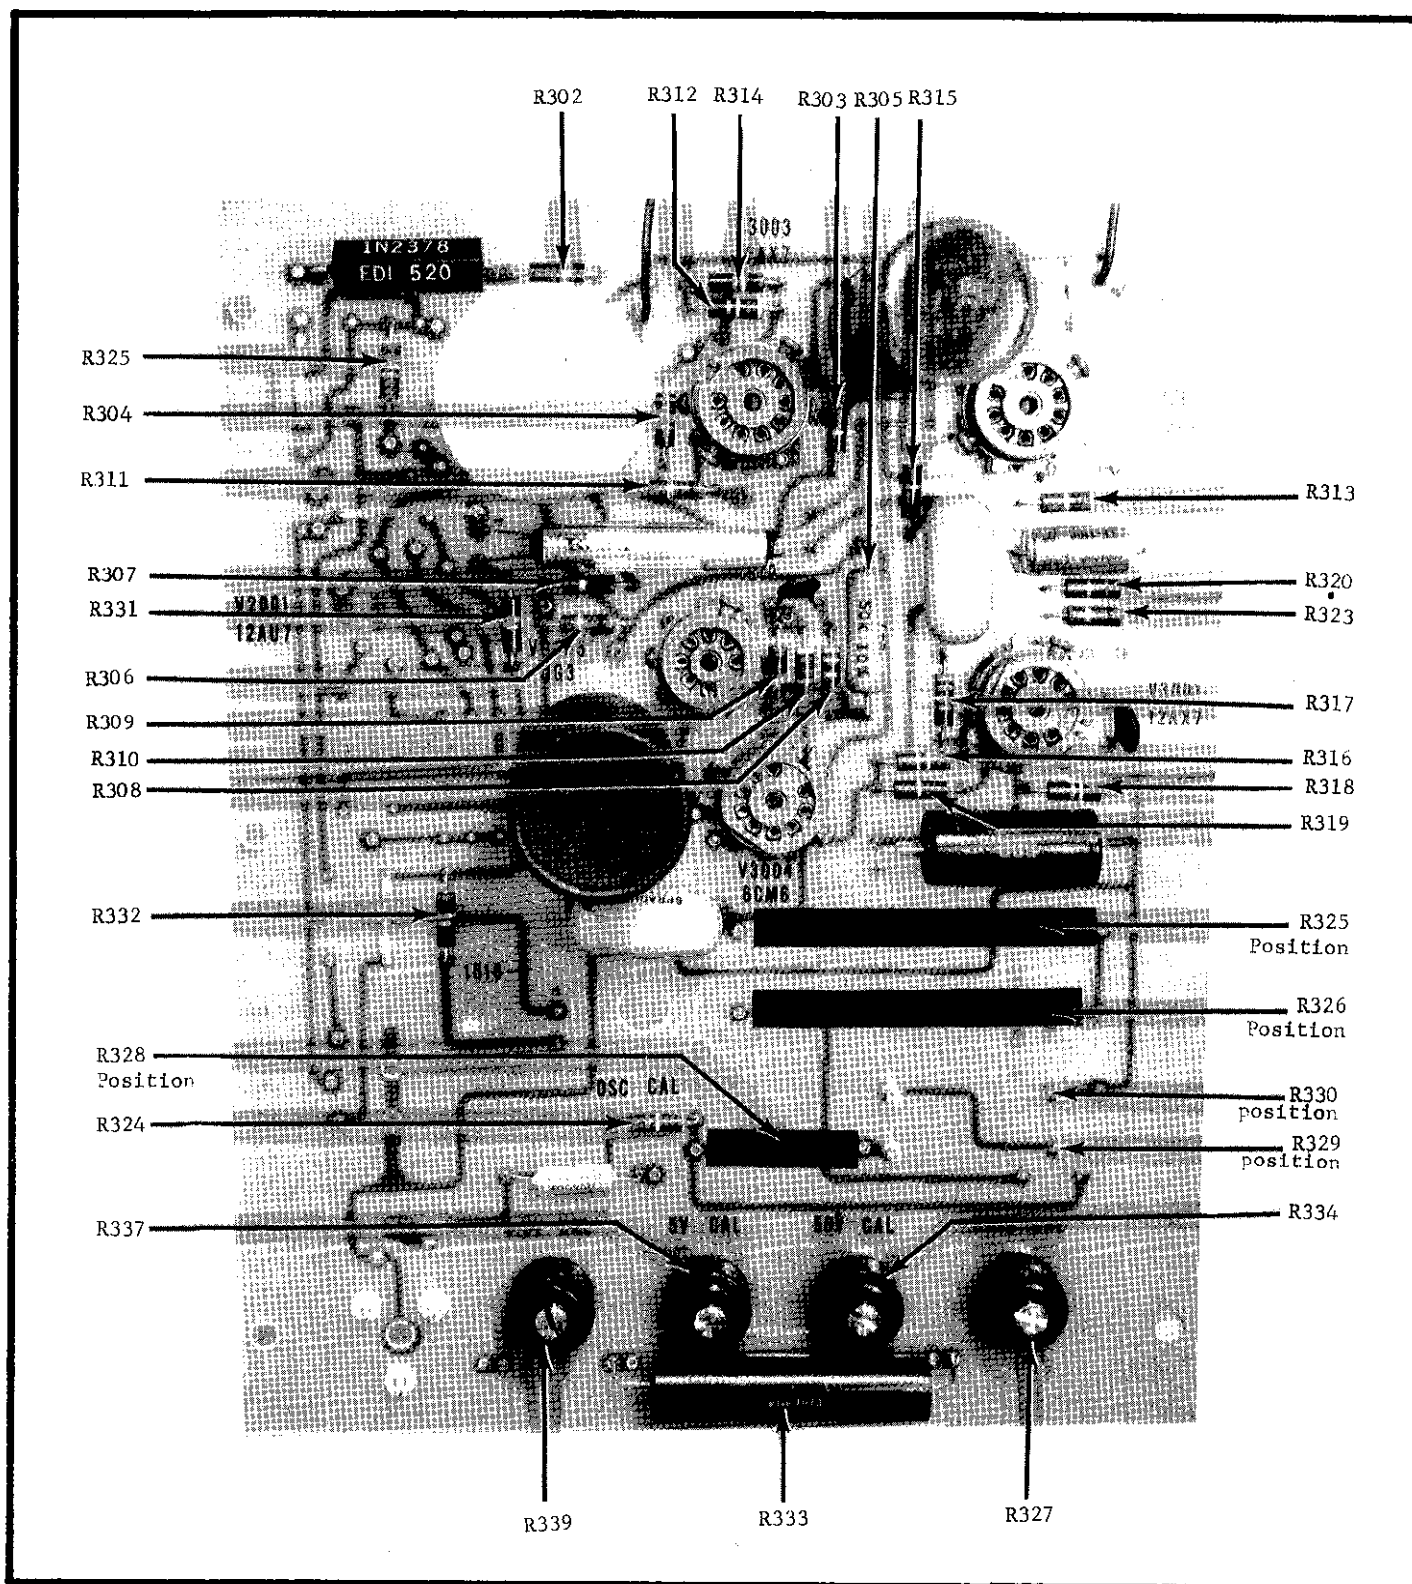

FIGURE 20. Resistor Locations on Printed Circuit Board PC-92. Refer to Figure 19 for Capacitor, Diode, Modulator and Tube Locations.
a. The reference voltage supply has a 500-volt output which can be attenuated to 50, 5 or 0.5 volts. This voltage is then divided by the Kelvin-Varley divider to provide the accurate buckout voltage. Each of the four voltage ranges is set by internally adjusting potentiometers R327, R334, R337 and R339 (Figure 20).
Adjust the Voltage Calibrator to apply 500 volts to the Model 630. Turn the Model 630 NULL Switch to 10 MV and adjust the 500 V CAL potentiometer, R327 (Figure 20), for null on the Potentiometric Electrometer.
Adjust the Voltage Calibrator to apply 50 volts dc to the Model 630. Adjust the 50 V CAL potentiometer, R334 (Figure 20), for an off-null reading on the Model 630 equal to the correction factor at 50 volts.
Adjust the Voltage Calibrator to apply 5 volts dc to the Model 630. Adjust the 5 V CAL potentiometer, R337 (Figure 20), for an off-null reading on the Model 630 equal to the correction factor at 5 volts.
Adjust the Voltage Calibrator to apply 0.5 volt dc to the Model 630. Adjust the 0.5 V CAL potentiometer, R339 (Figure 20), for an off-null reading on the Model 630 equal to the correction factor at 0.5 volt.
2. Connect the Model 150B and the recorder as shown in Figure 12. Set the Model 150B to the 3-volt range. Advance the Model 630 POLARITY Switch to + to put 500 volts across the divider. If the Model 150B reads two volts, the standard cell and the divider voltages are improperly connected in series. If the circuit is correct, the Model 150B will read zero. Increase the Model 150B's sensitivity to the 0.1-millivolt range. If it reads more than 20 microvolts, adjust the 500 V CAL potentiometer, R327 (Figure 20), shunting the divider.